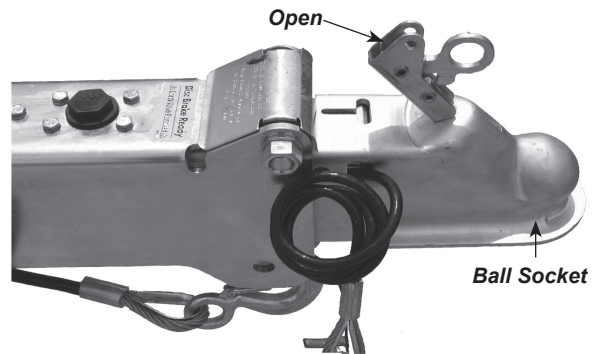
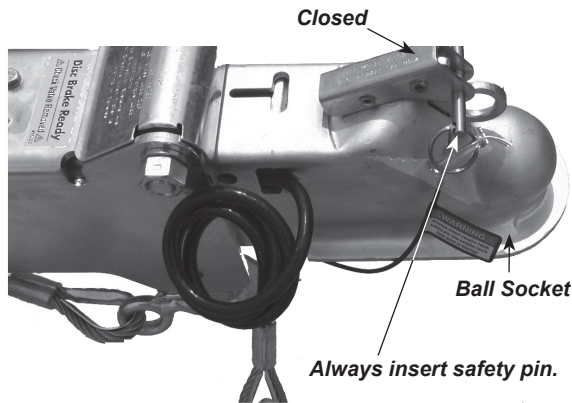

Figure S5: Brake Actuator & Coupling Assembly - Open
Figure S6: Brake Actuator & Coupling Assembly - Closed
Surge brakes are standard on the S series model trailers manufactured by Four Winns. Surge brakes operate automatically when the tow vehicle's brakes are applied. When the tow vehicle slows down or stops, the forward momentum or "surge" of the trailer against the hitch ball applies pressure to a master cylinder in the trailer coupler. The master cylinder supplies hydraulic pressure through the hydraulic system which activates the trailer's disc brakes. See Figure S5. Please refer to the manufacturer's literature included in your owner's packet for further details regarding operation and maintenance.
To hitch the trailer to the tow vehicle, place the coupler latch in the open position to unlock the coupler. See Figure S5. Push down on the coupler latch to lock the trailer to the ball hitch. Push coupler latch lever back until the latch engages and is properly seated. The safety pin, provided with the trailer, or a padlock **must be inserted completely** in the forward coupler latch hole. See Figure S6. This helps ensure the coupler's latch remains in the locked position during towing of the trailer. Refer to Section S-3 Operation for additional information on couplers and hitching to the tow vehicle.
2. Open the coupler latch fully to allow the ball latch to rotate open. Note: You will have to remove the safety pin from the coupler latch hole to fully extend the coupler latch. The coupler latch will remain up to indicate that it is not yet attached to the ball. See Figures S5 & S6.